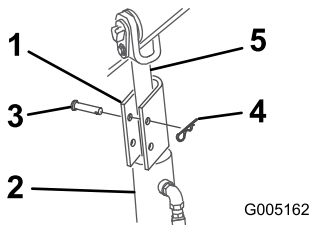

Figure 22
4. Position a cylinder lock over each lift-cylinder rod (Figure 22).